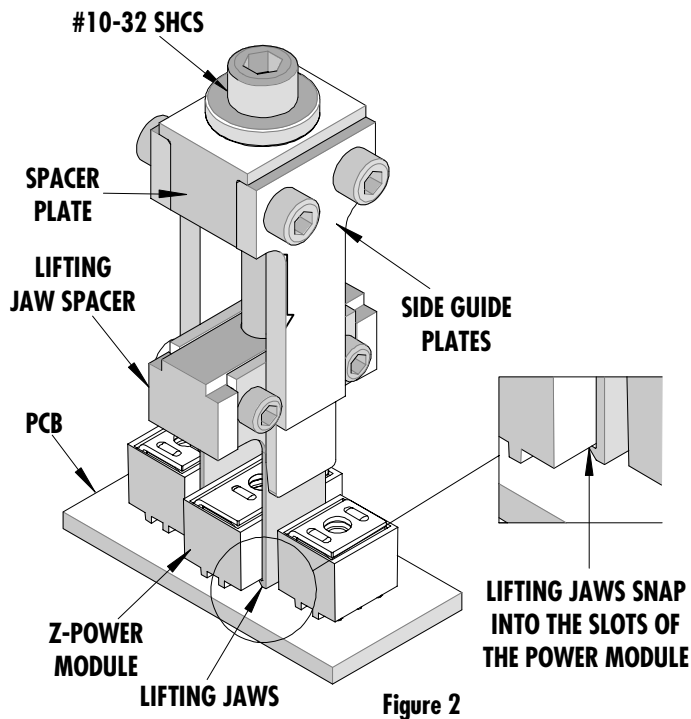

Figure 2
1. Turn the #10-32 SHCS counter-clockwise (CCW) until half the lifting jaws are exposed below the side guide plates. Continue turning the #10-32 SHCS so the lifting jaw spacer is parallel to the power module. See Figure 2.